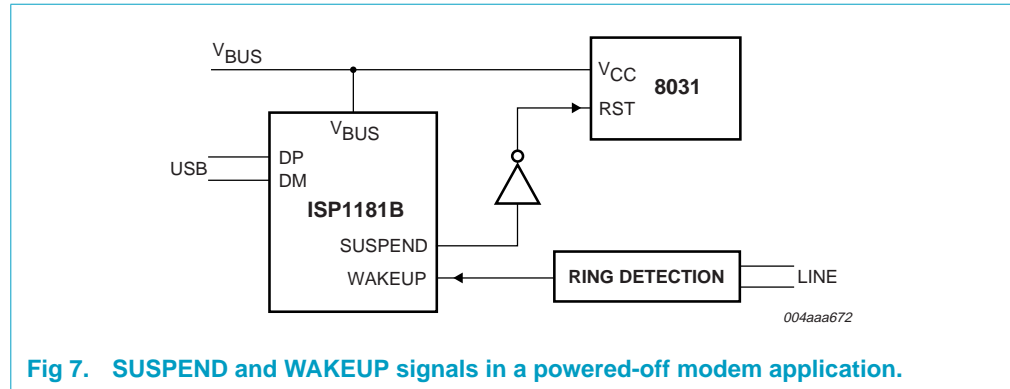

Fig 7. SUSPEND and WAKEUP signals in a powered-off modem application.
**Figure 7** shows a typical bus-powered modem application using the ISP1181B. The SUSPEND output switches off power to the microcontroller and other external circuits during the suspend state. The ISP1181B is woken up through the USB bus (global resume) or by the ring detection circuit on the telephone line.